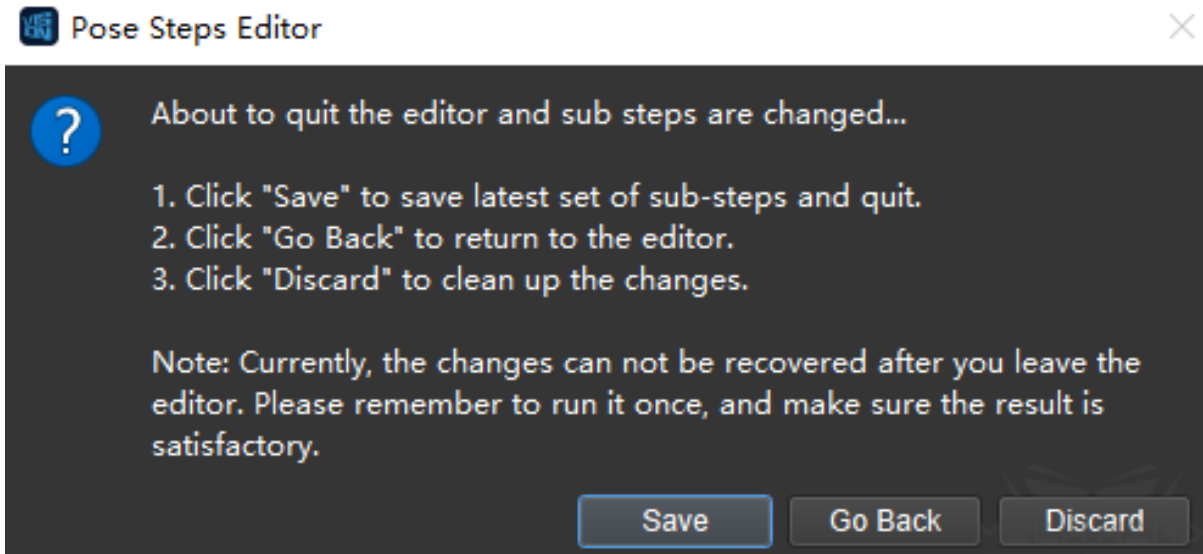

figure 10 Exit and Svae
Step 5. After finishing the pose editing, click the exit button, as shown in *figure 10*, to save the edited pose.